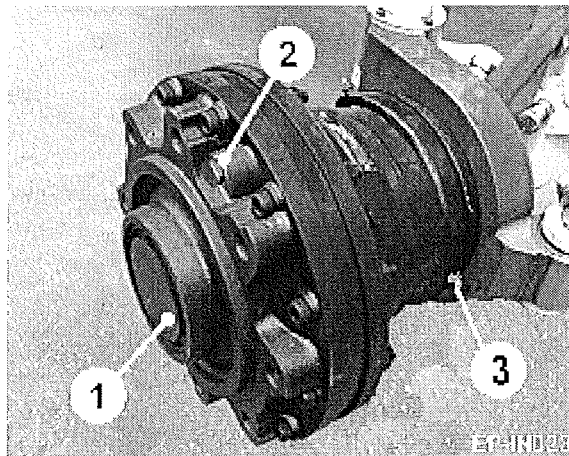

Fig 24
Ensure the wheel motor casings (item 1, fig 24) are filled with hydraulic oil before starting. Failure to do so may cause premature failure of the motor.
Each wheel motor is fitted with a grease ring (item 3, figure 24). To prevent the ingress of dirt and dust pack the ring with grease daily using the two grease nipples.
Place the motor (item 1, fig 24) in a position in which one of the bleed screws (item 2, fig 24) is topmost. Remove the bleed screw and pour in hydraulic oil until all trapped air has been eliminated. Refit the bleed screw and repeat for the second motor. Run the motors unloaded. Finally, operate the motors under load and check for leaks and extraneous noise.